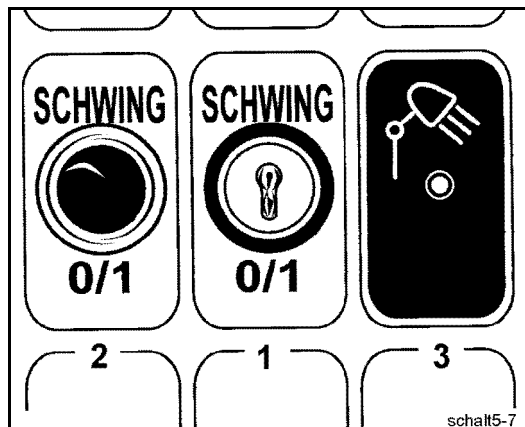

Fig. 274 Switch in the driver's cab
- Switch off the power supply of the control system using the key-operated switch (1) **(Fig. 274)** in the driver's cab.
- Do not forget, if necessary, to switch off all floodlights with the switch (3) **(Fig. 274)**.